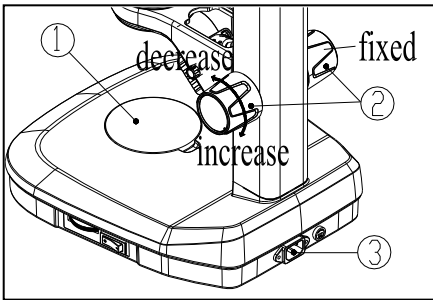

Fig 1
Holding left & right focusing knob ② with both hands (Fig 1), then fixed left focusing knob. Rotating clockwise the right focusing knob, Strain can increase otherwise decrease.
1. Plug in power line in socket ③ (Fig 1), turn on the power.